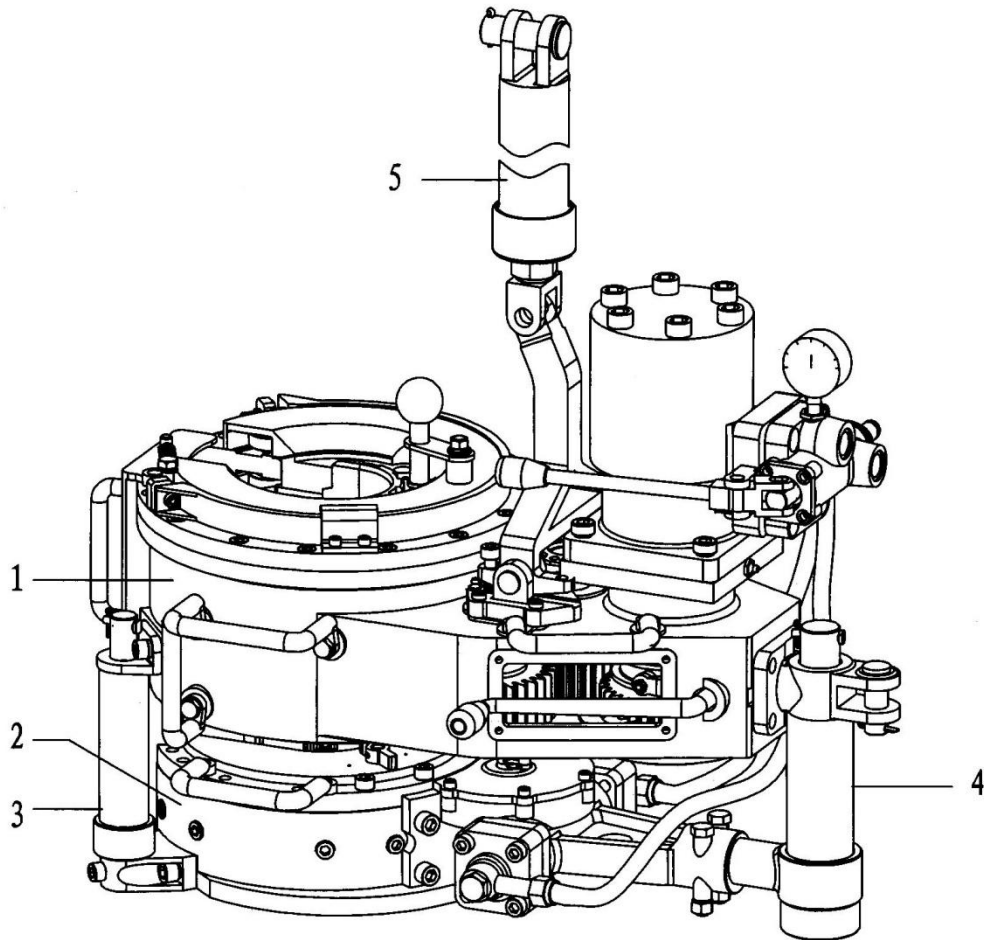

Fig 5
Adjust the screw (XQ9-31) on the tong hanger to level the tong and backup, this should be done to ensure proper gripping of the jaws (see Fig.5).
9.1 Assembly and parts list (Fig 5, Table 1)